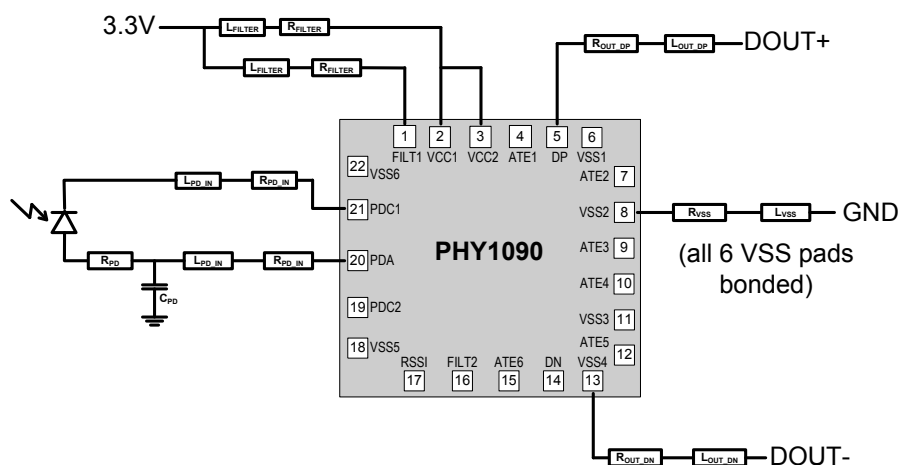

Figure 3: Photodiode and bonding parameters
- 1 Using the circuit below for PD and bonding parameters (Figure 3) :